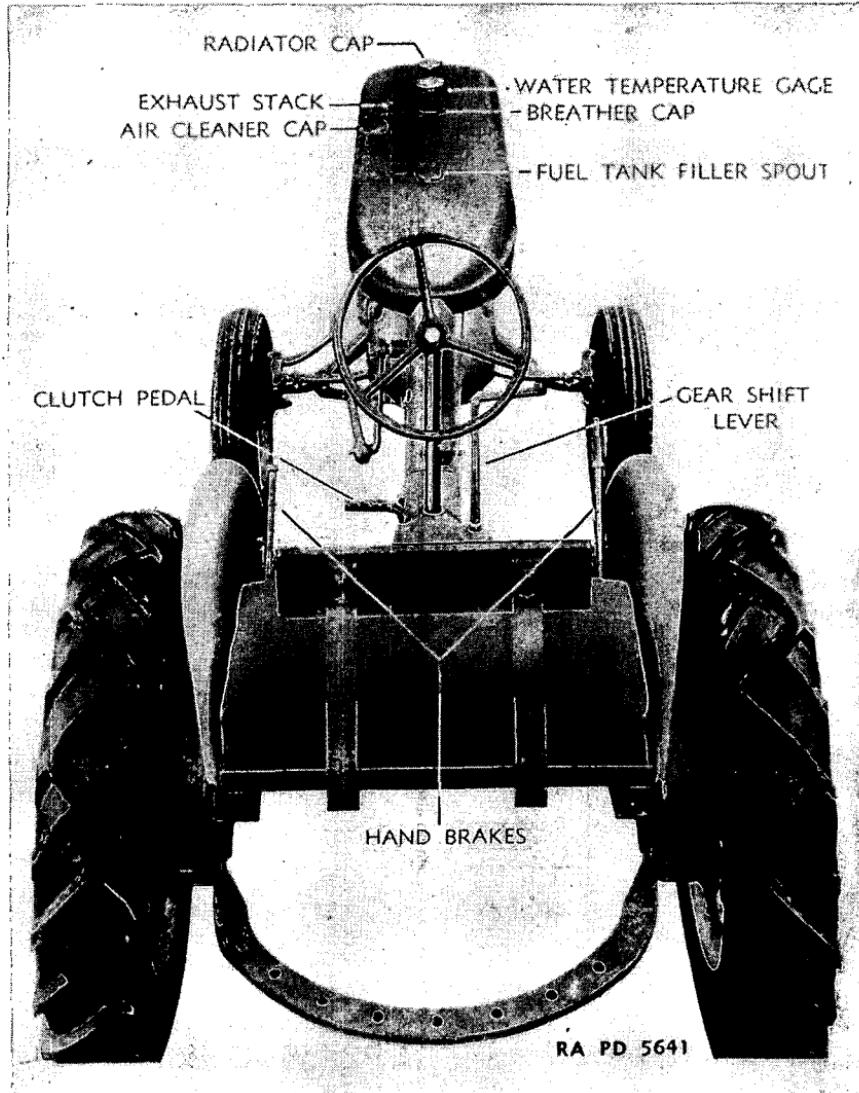

FIGURE 4.—Rear view.
c. Brakes.—Independent brakes are provided for each of the rear wheels. Each brake is operated by its control lever located over the rear wheel at either side of the driver (fig. 4). The brakes are applied as the lever is pulled back. A catch is provided to maintain brakes in full applied position. Sharp turns may be made by applying the hand brake on the side toward which the turn is to be made and turning the steering wheel in the usual direction. This will allow the tractor to pivot about the rear wheel on which the brake is applied.
d. Gear shift lever.—A gear shift lever is mounted on the transmission case in front of the driver (fig. 4). It provides three forward speeds for the tractor and one reverse speed. The gear shift positions as indicated in figure 3 are as follows:
e. Clutch.—A clutch pedal is provided on the left side of the tractor (fig. 4) convenient to the operator's left foot. The clutch pedal is depressed each time it is desired to shift gears and the lever placed in the proper gear position, after which the clutch pedal is released slowly to avoid a sudden jerk at starting and the throttle is opened far enough to avoid stalling the engine. A latch is provided which may be used to hold the clutch in depressed position.